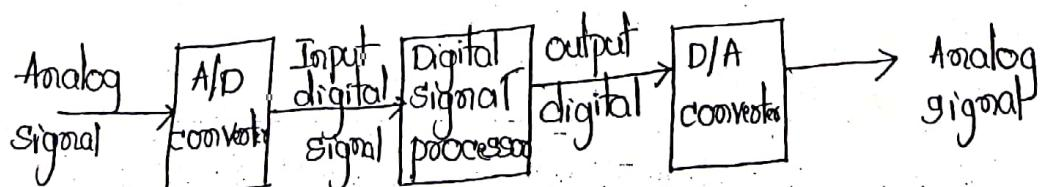

Fig. 1 Basic elements of digital signal processing.
- Fig. 1 shows the basic elements of digital signal processing system.